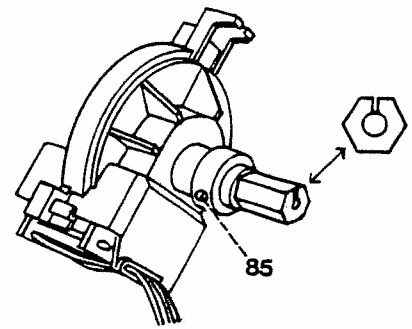

Fig. 39b
- Loosen fixing collar screw 85 of the synchronizer (fig. 39b).
- Push the synchronizer onto the shaft (fig. 39b).